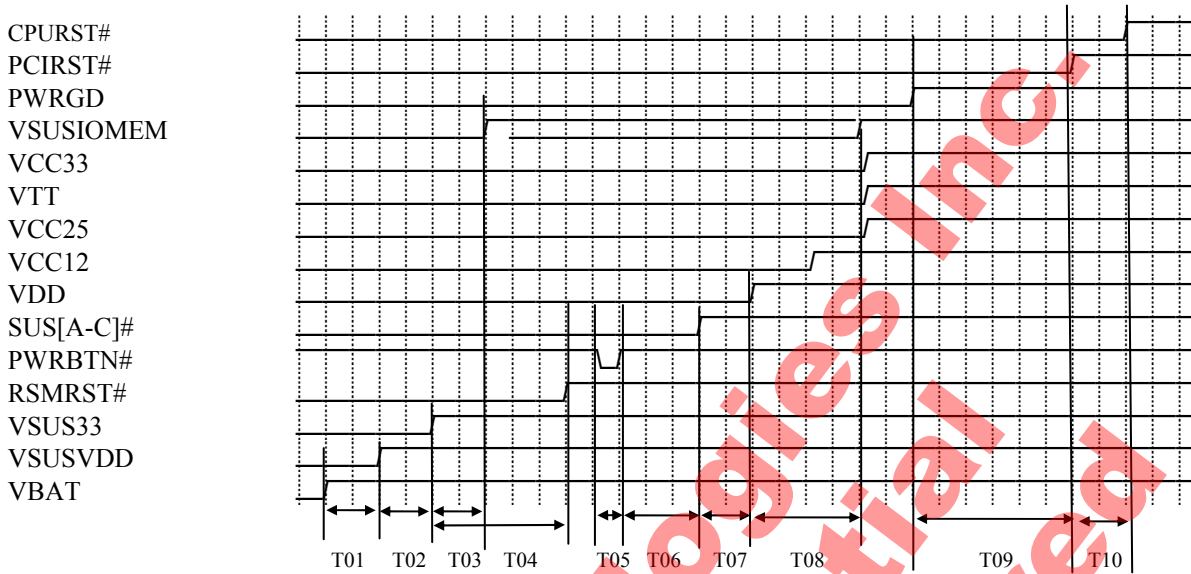

Figure 6. Power On Sequence and Reset Signal Timing
4. Please note that the detailed ramp up sequence of VTT/VCC12/VCC25/VCC33/VDD conforms to Figure 6.